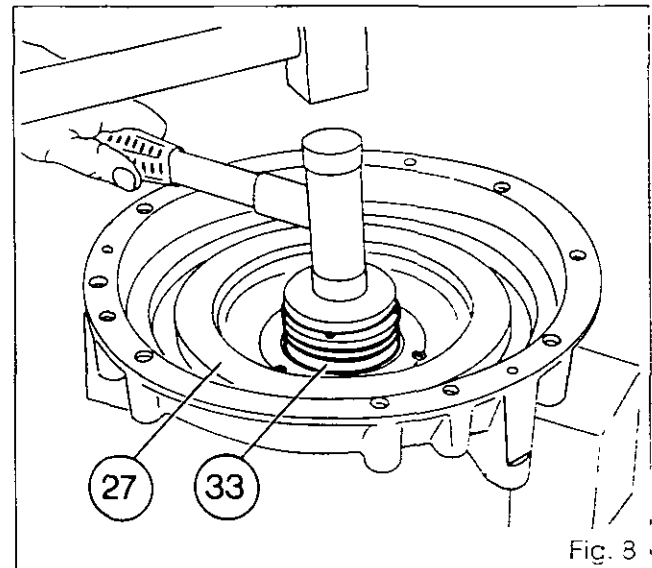

Fig. 8
16. Withdraw the release bearing from the slave cylinder for a distance of approx. 40 mm (Fig.8 - 5 B01), take off the bellows.
22. Take out needle-roller bearing (32) and discard it.
23. Drive ring carrier (33) out of cover (27) (Fig.8) (Work from the rear of the ring carrier using a plastic-faced mallet as a drift).